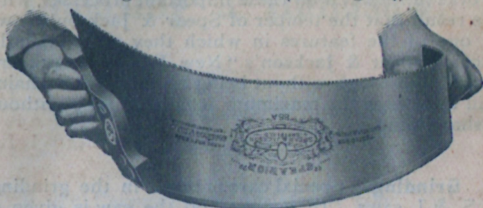

Fig. 14.
- (1) Spring the blade (holding handle in right hand), to see if it bends in a regular curve and goes back straight on release. (See Fig. 14).